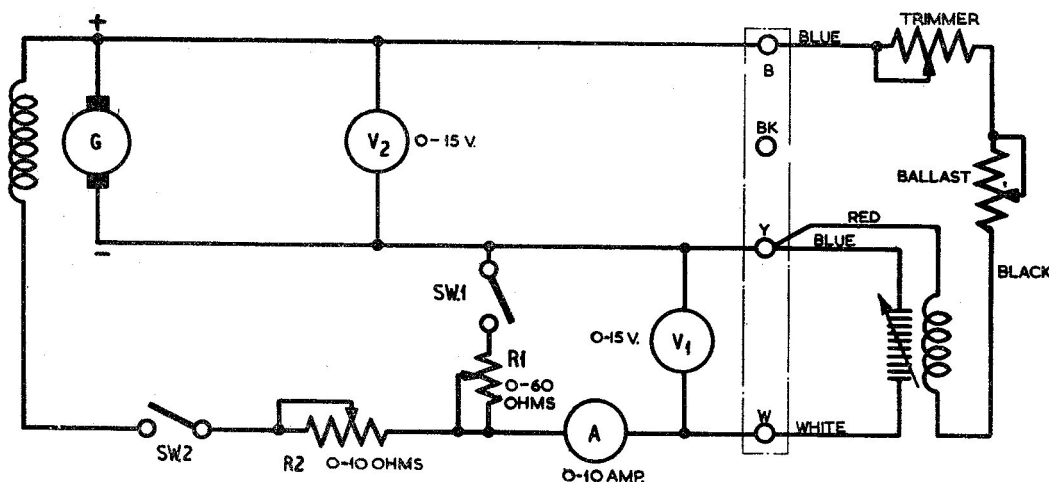

Fig. 2. Test circuit diagram
5. Connect the regulator in the test circuit as shown in fig. 2. This shows the regulator connected to a generator, Type L or LX, but if it is available the Type E5A should be used. It should be noted, however, that with this generator the polarity is reversed from that shown in fig. 2.